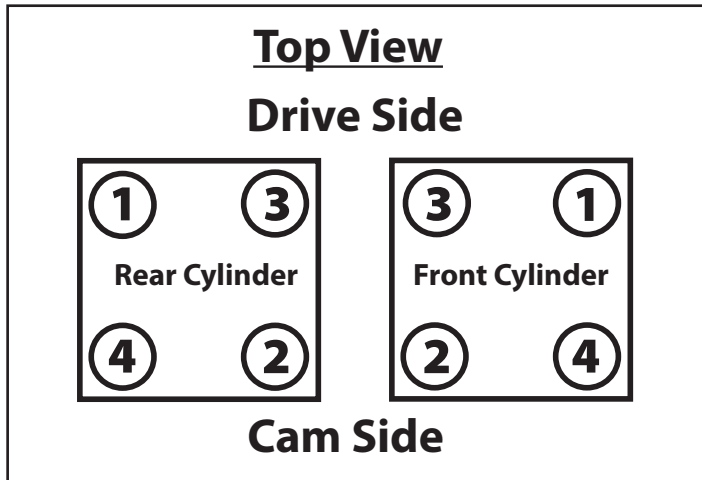

Figure 2
- i. Tighten each bolt finger tight using the sequence in **Figure 2**.
- vii. Tighten each bolt finger tight using the sequence in **Figure 2**.